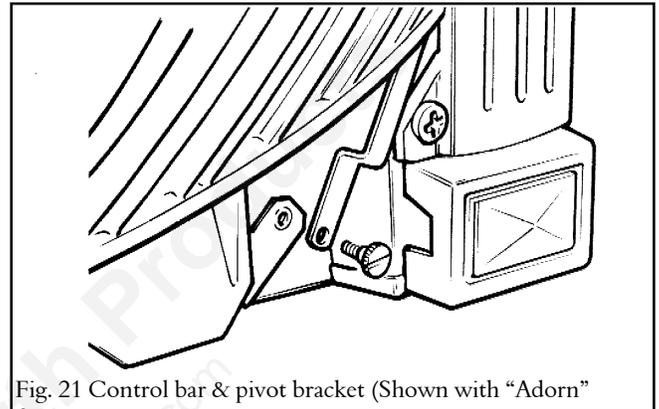

Fig. 21 Control bar & pivot bracket (Shown with “Adorn”
12.4 Align the hole near the bottom of the control linking bar with that in the control pivot bracket. Join them with the knurled shouldered screw (See figure 21). Make sure that the gas control valve is closed. Slide the control knob fully from top to bottom and back to make sure that the slide and pivot mechanisms move smoothly. Note that some resistance should be felt when the slide knob reaches the “burner fully on” position.